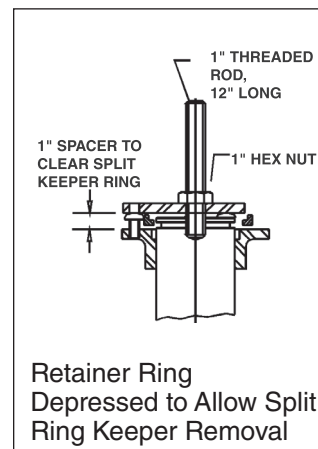

Figure 3
Using the existing 1.00 UNC tapped hole in top of hook shank, install threaded rod (thread the full length) of at least 12" long to allow controlled release of spring (See Figure 3).
2. Using the existing 1.00 UNC tapped hole in top of hook shank, install threaded rod (thread the full length) of at least 12" long to allow controlled release of spring (See Figure 3).
plate and retainer ring. Using the existing 1.00 UNC tapped hole in top of hook shank, install threaded rod (threads the full length) of at least 12" long to allow compression of the coil spring. Then tighten with a heavy hex nut against the retainer plate until the split keeper rings (qty. 2) can be installed through gap between retainer plate and retainer ring (See Figure 3 on page 7, note orientation of retainer ring).